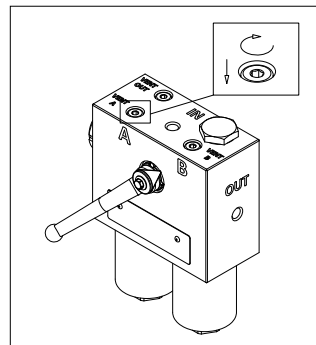

fig. 3
- (Fig. 3) Immediately screw the breather plug in